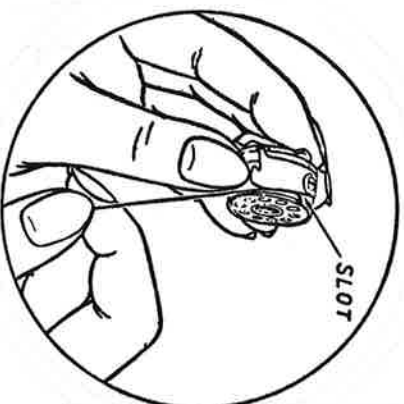
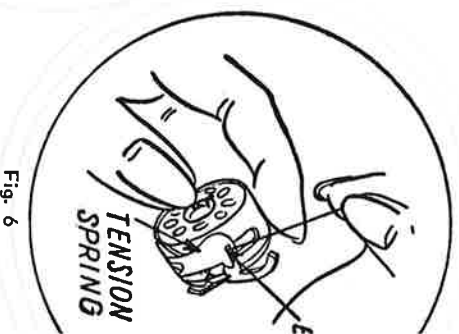

Fig. 5
Fig. 6
2. While holding the bobbin case as before, grasp the thread end with your right hand, and guide it into the cross slot (Fig. 5).
3. Then pull it through until the tension spring of the case (Fig. 5) until it enters the delivery eye (Fig. 6).